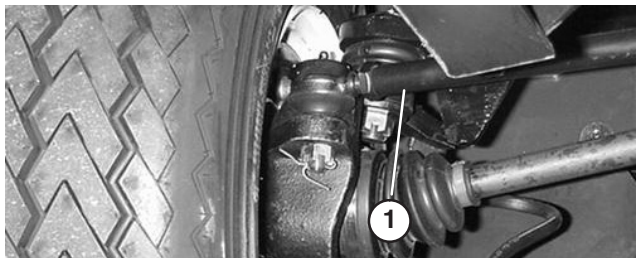

Figure 52
- On the right front wheel, loosen the jam nuts at both ends of the tie rod (Fig. 52).